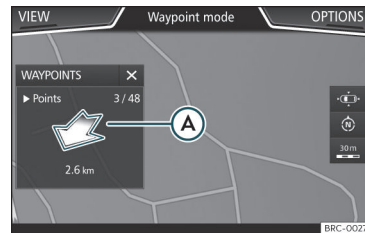

Fig. 174 Offroad route guidance mode
- The general direction of travel is indicated straight ahead by direction arrows in the Infotainment System pop-up window >>> Fig. 174 (A).